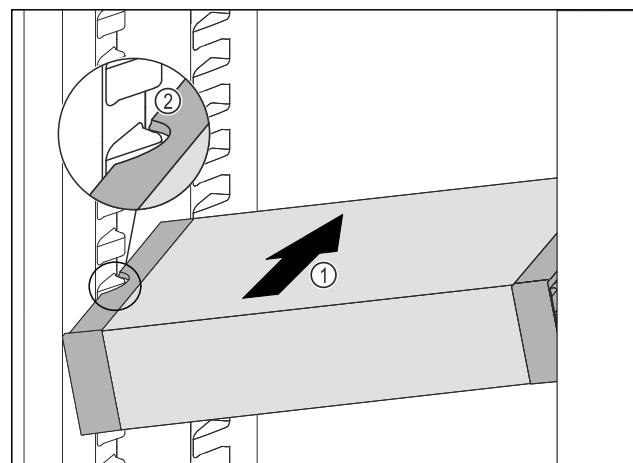

Fig. 127
- Insert the VarioSafe into the refrigerator compartment at an angle Fig. 127 (1) until the recesses in the side Fig. 127 (2) of the VarioSafe are at the level of the support rib in the refrigerator compartment.